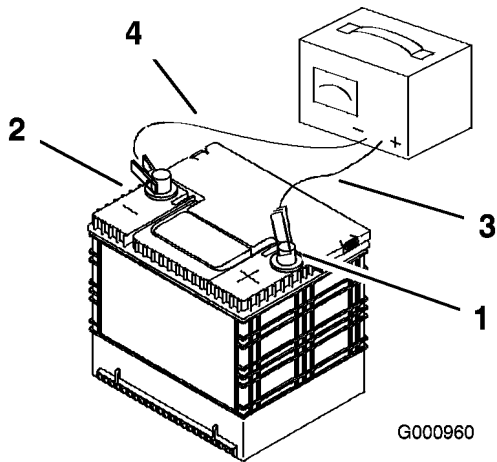

Figure 51
2. When the battery is fully charged, unplug the charger from the electrical outlet, then disconnect the charger leads from the battery posts (Figure 51).